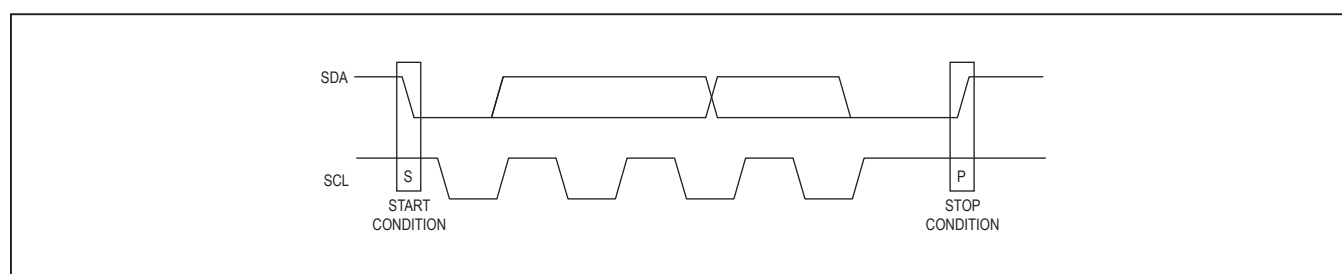
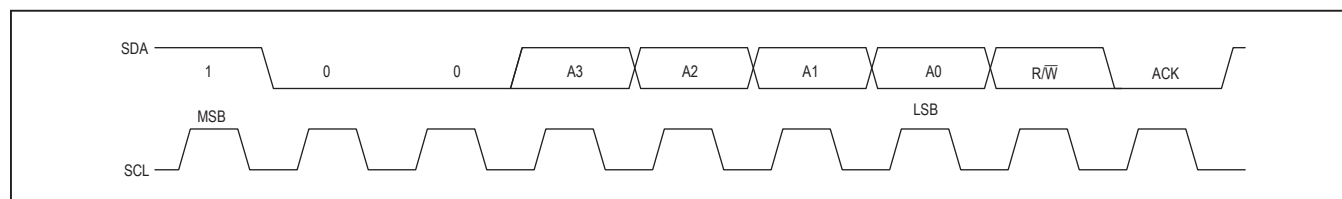

Figure 3. Start and Stop Conditions
Figure 6. Slave Address
Each transmission consists of a START condition (Figure 3) sent by a master, followed by the MAX7300 7-bit slave address plus R/W bit (Figure 6), a register address byte, one or more data bytes, and finally a STOP condition (Figure 3).
Both SCL and SDA remain high when the interface is not busy. A master signals the beginning of a transmission with a START (S) condition by transitioning SDA from high to low while SCL is high. When the master has finished communicating with the slave, it issues a STOP (P) condition by transitioning SDA from low to high while SCL is high. The bus is then free for another transmission (Figure 3).
The MAX7300 has a 7-bit-long slave address (Figure 6). The eighth bit following the 7-bit slave address is the $\overline{R/W}$ bit. It is low for a write command and high for a read command.